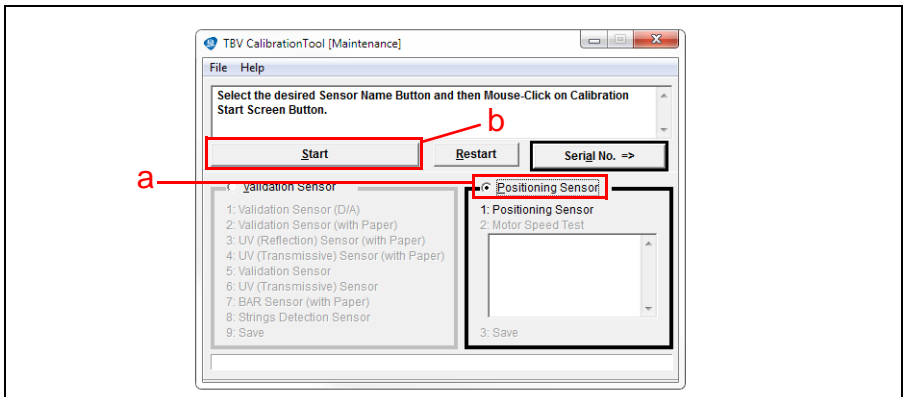

Figure 7 Positioning Sensor Calibration-TBV Calibration Tool [Maintenance]
6. Click the Service Mode drop down menu, then select "Sensor Adjustment." The TBV Calibration Tool [Maintenance] screen will be displayed, as shown in Figure 7.
7. Click to select the Positioning Sensor radio button (Figure 7 a).
8. Click the "Start"  Screen Button (Figure 7 b).